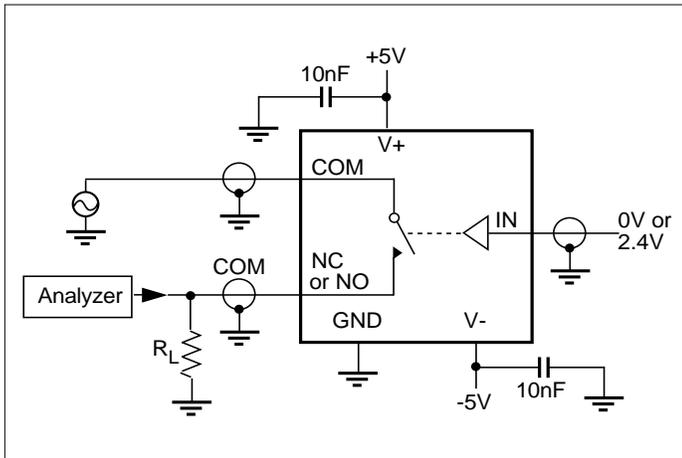

Figure 5. Off Isolation
7. Off Isolation =  $20 \log_{10} [ V_{COM} / (V_{NO} \text{ or } V_{NO}) ]$ . See figure 5.
- Off Isolation =  $20 \log_{10} [ V_{COM} / (V_{NO} \text{ or } V_{NC}) ]$ . See figure 5.